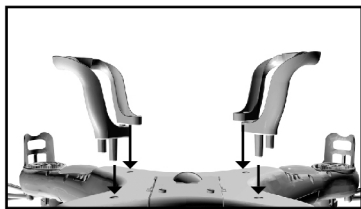

Figure.1
1. Install the landing skids to the bottom of quadcopter (Figure 1).